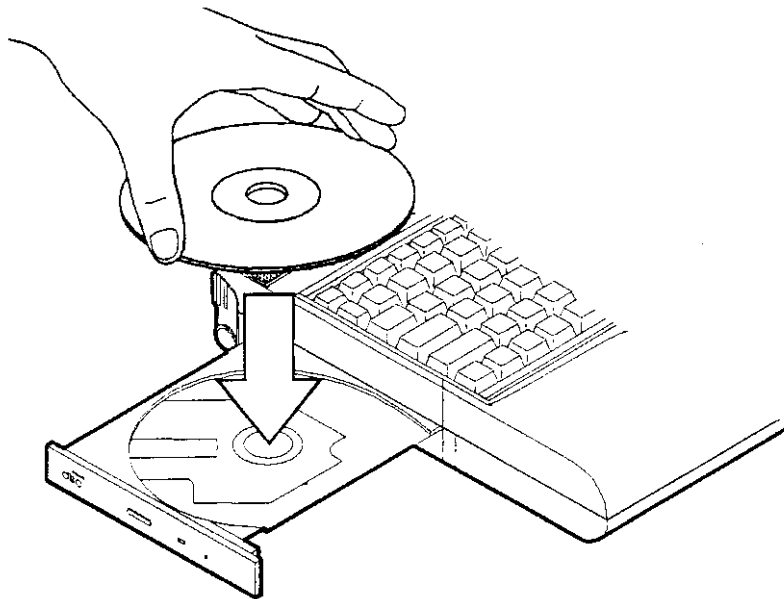

Figure 2-14
4. Carefully load the CD on the disc tray with label-side facing up. Press it gently to ensure it fits into place (Figure 2-14).